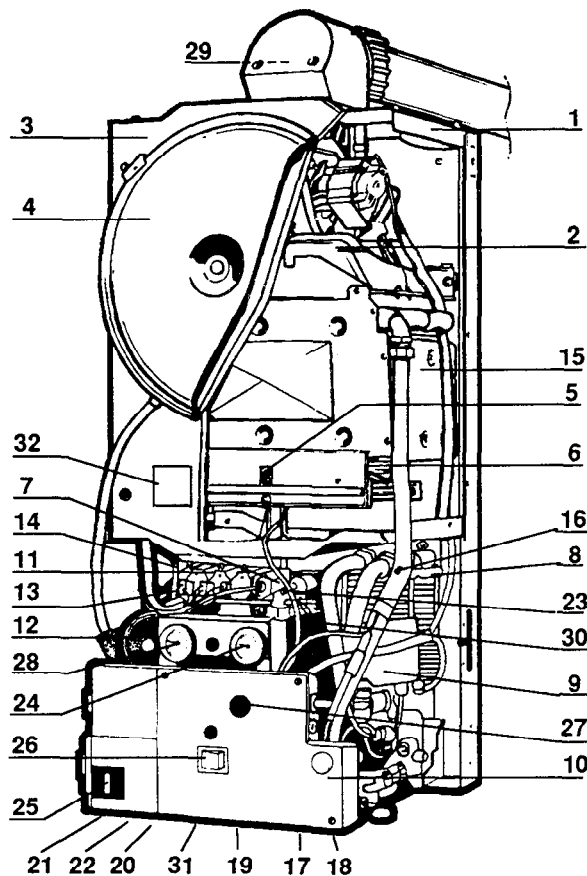
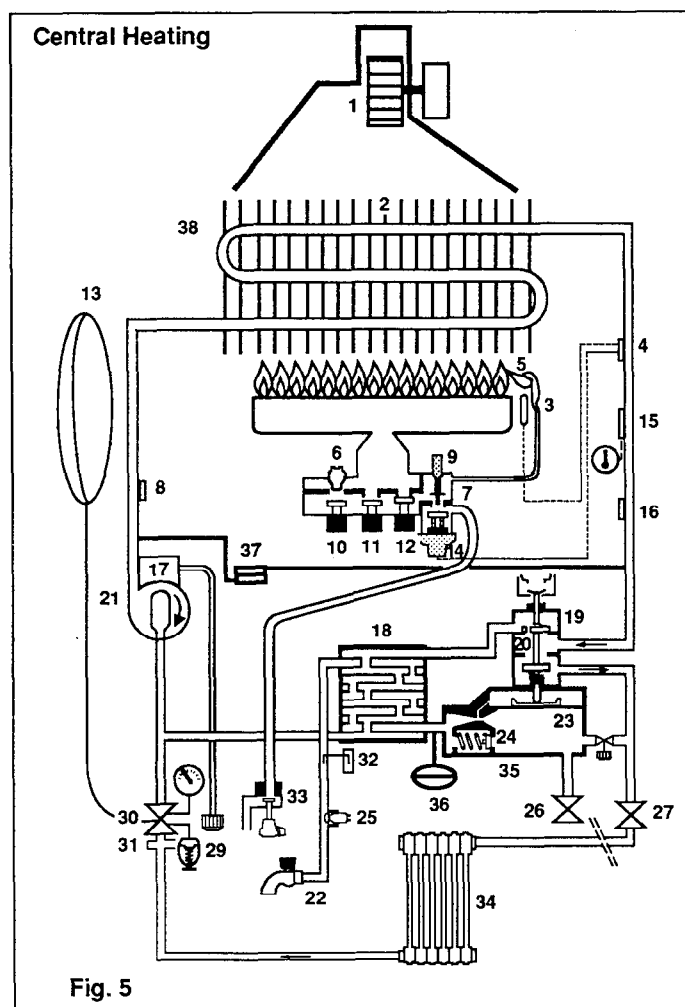

Fig. 4
Fig. 5
### 1.6.1 Central Heating (see fig. 5)
### 1.6.3 Gas (see figs. 5 and 6)
Should the central heating water flow reduce to below 300 l/h (1.1 gal/min) the gas supply to the burner is turned off, see fig. 4 (31) and figs. 5 & 6 (37).